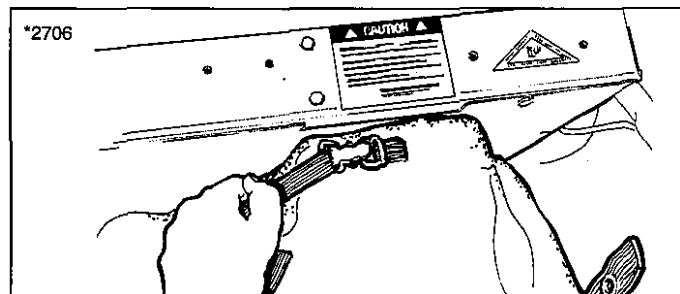

Figure 11. Tighten Cinch Strap Securely
4. Zip the bag closed, and reinstall in the reverse sequence followed for bag removal. Tighten cinch strap securely (Figure 11).